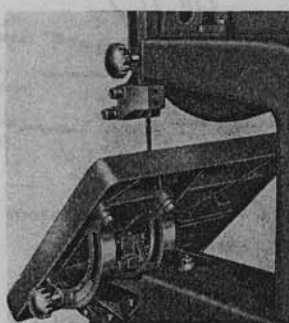

Fig. 3
4. Knob beneath table controls table tilt—see Fig. 3. The table can be tilted and locked securely at any angle between 0 and 45 degrees—angle is shown on graduated scale.